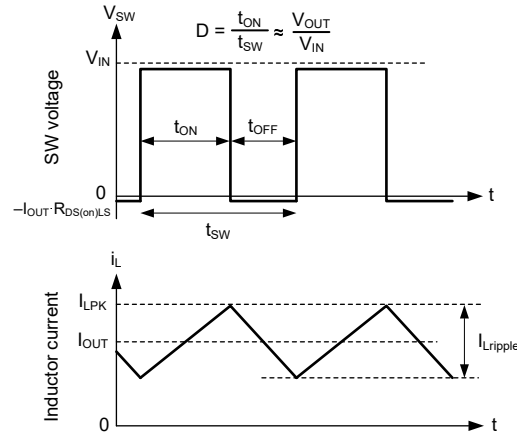

Figure 7-12. SW Voltage and Inductor Current Waveforms in Continuous Conduction Mode (CCM)
The following operating description of the converter refers to the Functional Block Diagram and to the waveforms in Figure 7-12. In CCM, the converter supplies a regulated output voltage by turning on the internal high-side (HS) and low-side (LS) NMOS switches with varying duty cycle (D). During the HS switch on time, the SW voltage, V_{SW} , swings up to approximately V_{IN} , and the inductor current, i_L , increases with a linear slope. The HS switch is turned off by the control logic. During the HS switch off time, t_{OFF} , the LS switch is turned on. Inductor current discharges through the LS switch, which forces V_{SW} to swing below ground by the voltage drop across the LS switch. The control loop adjusts the duty cycle to maintain a constant output voltage. D is defined by the on time of the HS switch over the switching period: